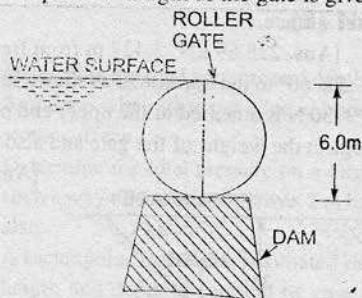

Fig. 3.59
20. A roller gate is shown in Fig. 3.59. It is cylindrical form of 6.0 m diameter. It is placed on the dam. Find the magnitude and direction of the resultant force due to water acting on the gate when the water is just going to spill. The length of the gate is given 10 m.